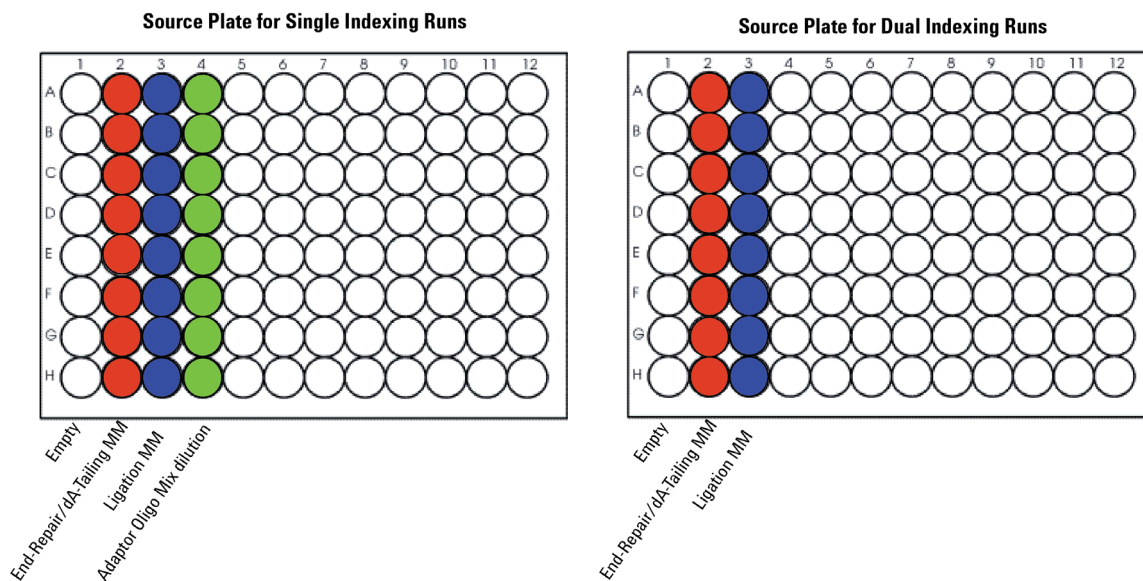

Figure 5 Configuration of the master mix source plate for the LibraryPrep_XT_LI_ILM runset in a Nunc DeepWell plate.
- 8 In a Nunc DeepWell plate, prepare the master mix source plate containing the mixtures prepared in **step 5** through **step 7**. Add the volumes indicated in **Table 29** of each mixture to all wells of the indicated column of the Nunc DeepWell plate. Keep the master mixes on ice during the aliquoting steps. The final configuration of the master mix source plate is shown in **Figure 5**.
The positions of the master mixes on the source plate have changed since the previous revision of the LibraryPrep_XT_LI_ILM runset (LibraryPrep_XT_LI_ILM_v.B1.1.1.rst) in that column 1 now remains empty. Make sure to refer to **Figure 5** for the correct source plate configuration.